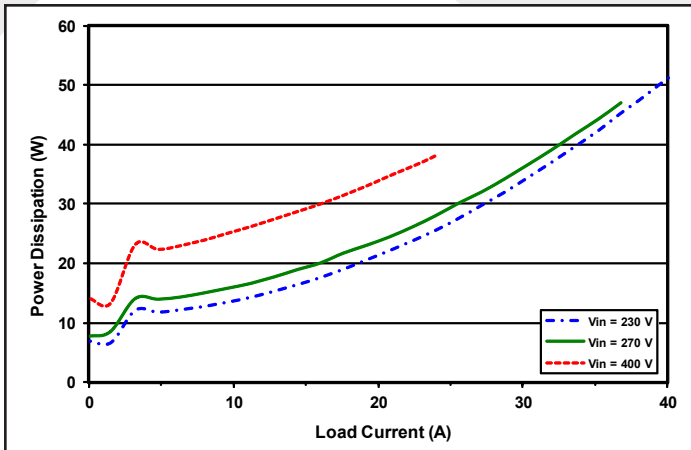
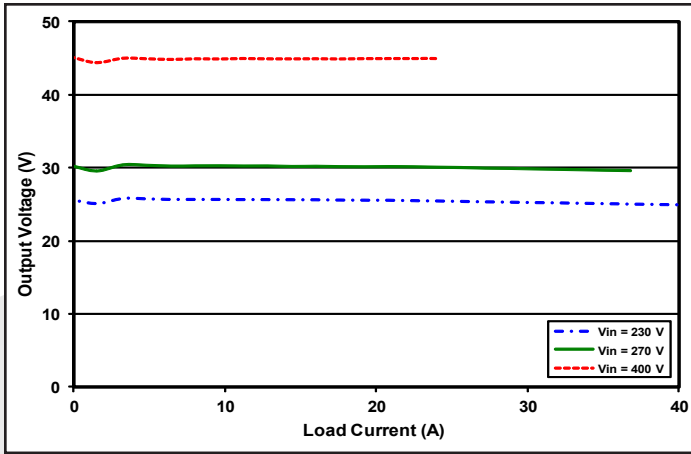

Figure 3: Power dissipation vs. load current for minimum, nominal, and maximum input voltage at  $T_{CASE}=25\text{ }^{\circ}\text{C}$ .
Figure 7: Output voltage vs. load current, regulation curves for minimum, nominal, and maximum input voltage at  $T_{CASE}=25\text{ }^{\circ}\text{C}$ .
**Operation at Light Loads:** The operation of the converter was optimized to reduce power dissipation at light load resulting in a no-monotonic  $V_o$  vs  $I_o$  characteristic load curve (Figure 3 and Figure 7). This feature affects, in a negative manner, the current share performance (ability) when placing multiple like BusQor’s in parallel.